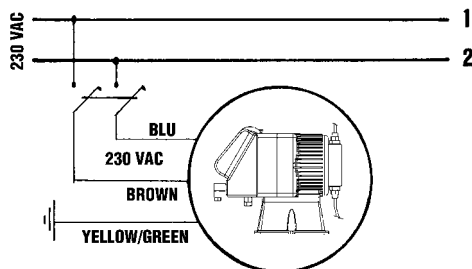

Fig. 4
1. **Disconnect the pins from the mains or by means of a onnipolar switch with 3 mm minimum distance between the contacts. (Fig. 4).**
1. Disconnect the pins from the mains or by means of a onnipolar switch with 3 mm minimum distance between the contacts. (Fig. 4).
- b. - Carefully observe the regulations in force in the various countries as regards electrical installations (Fig.4). **When the supply cable is devoid of a plug, the equipment should be connected to the supply mains by means of a single-pole circuit breaker having a minimum distance of 3 mm between the contacts. Before accessing any of the electrical parts, make sure that all the supply circuits are open.**